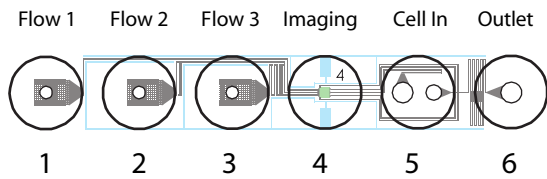
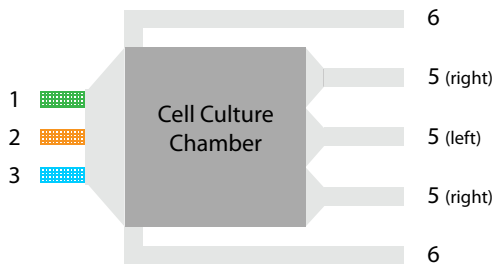

Figure 3 Well Layout
Figure 4 Culture Area
1. The M16 microfluidic plate consists of 16 identical flow units. The layout of a single unit is depicted in Figure 3. Each unit has 6 well positions: 3 flow inlets (1-3), an imaging area (4), a cell inlet (5), and an outlet well (6). The 1.0x1.0x0.12 mm cell culture chamber is located under well 4, with the design depicted in Figure 4. The plate is shipped pre-primed with 100  $\mu$ l PBS containing Penicillin/Streptomycin/Amphotericin B in each well, which can be replaced with a buffer of choice prior to experiment. The plates have a guaranteed shelf-life of 6 months.